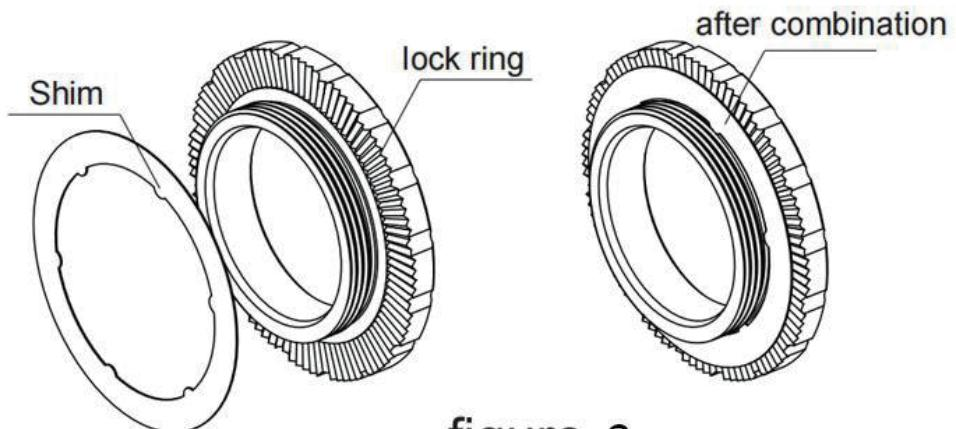

figure 2
④ Combine the shim with lock ring(already combined when received product,please proceed directly to the next step) (figure 2)